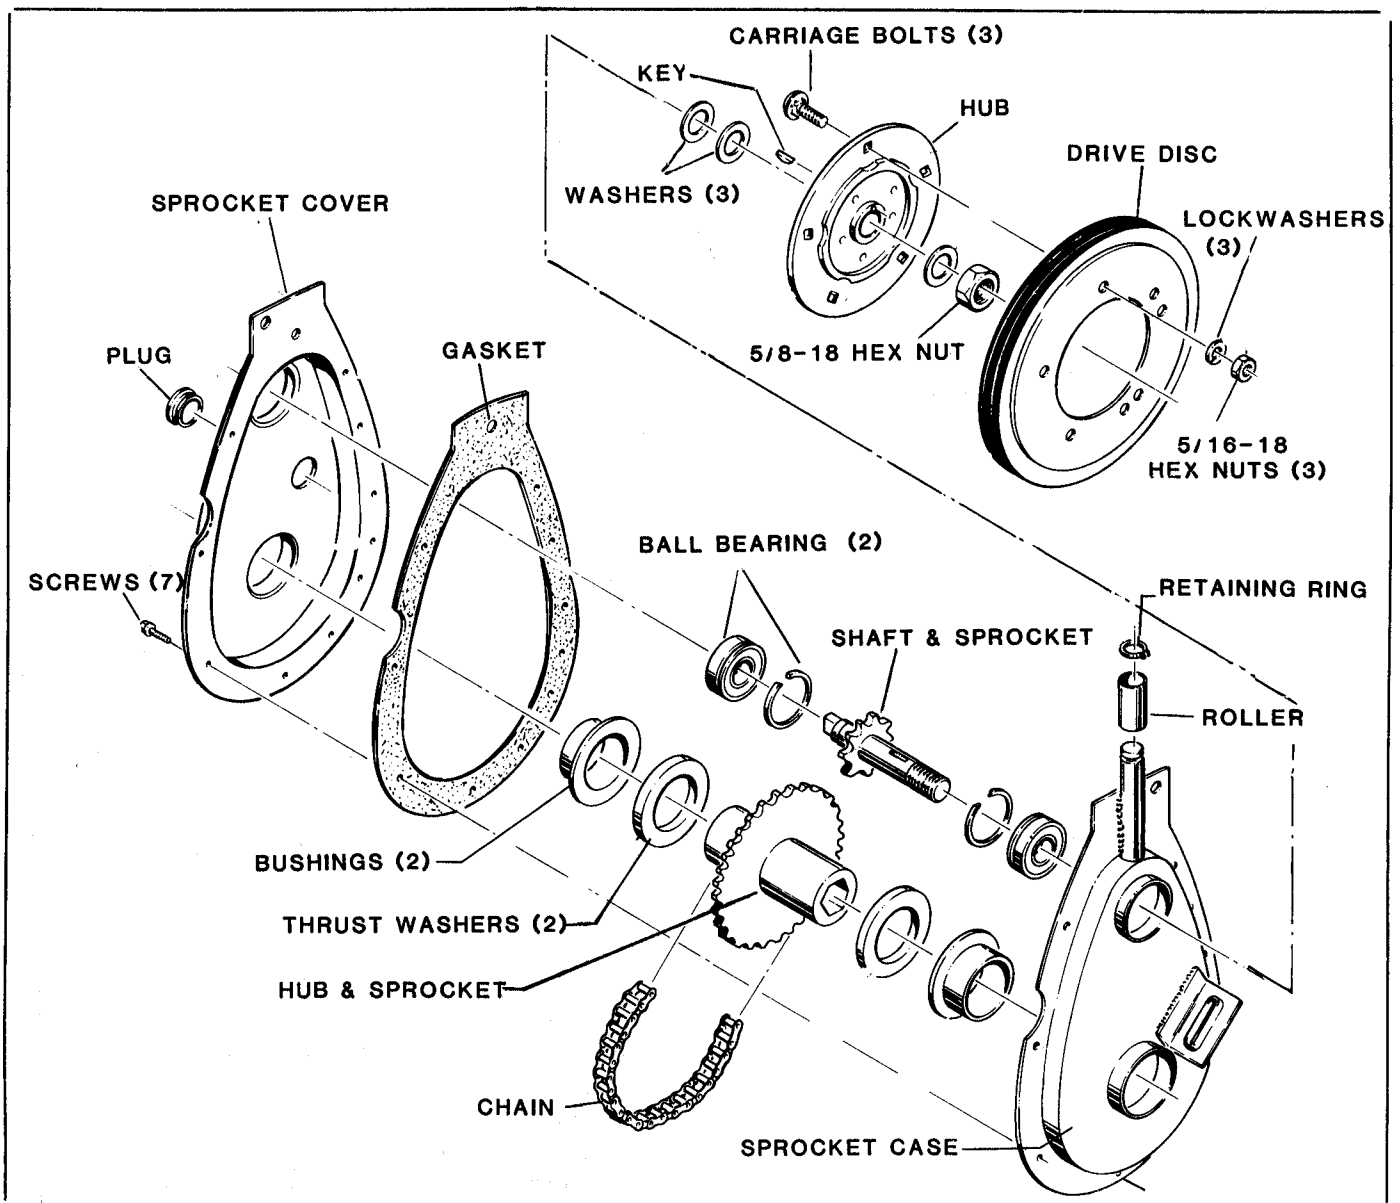

FIGURE 3.28 — CHAIN CASE EXPLODED VIEW
STEP 5: Reassemble components in the sequence shown in Figure 3.28 and reinstall the chain case by reversing the removal procedure described earlier.